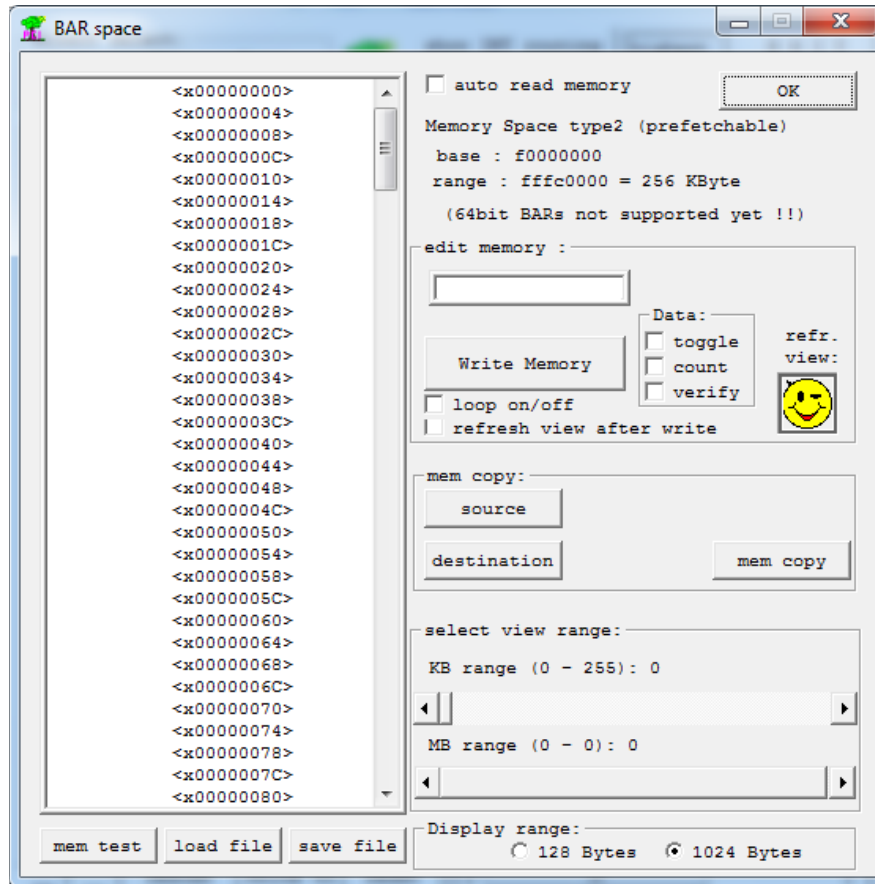

Figure 19. BAR Space
19. The BAR space window is displayed, as shown in Figure 19.